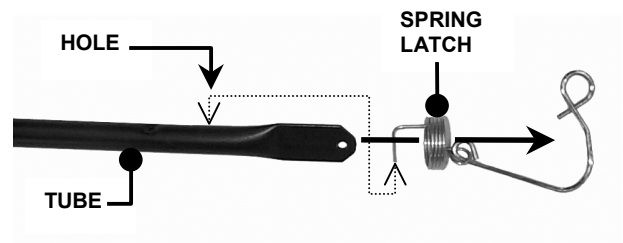

FIGURE 1.9
- B. Insert center brace tube into spring latch and insert end of spring into hole in tube. See Figure 1.9.